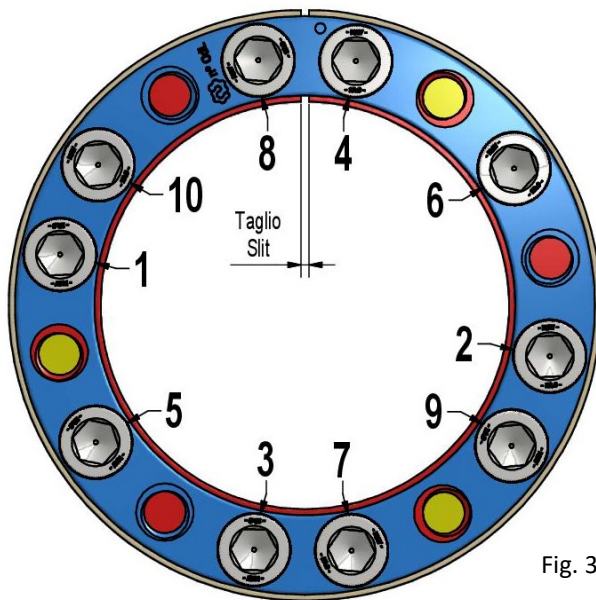

Fig. 3. Example of tightening pattern.
4. Tighten the screws by hand in a crosswise pattern, starting from a screw located at 90° approx. respect to slit in the inner ring (fig. 3), until fitting clearances with shaft and hub bore are bridged and connected components are slightly locked, while making sure that hub is aligned as required using a dial indicator. **Better centering of hub from the beginning of installation is essential for better centering when installation is completed.**
5. Use a torque wrench set approx. 5% higher than specified tightening torque (Ma), or reduced within admissible value. **Progressively tighten the screws in a crosswise pattern (fig. 3), using approx. ¼ turns for several passes** until ¼ turns can no longer be achieved.